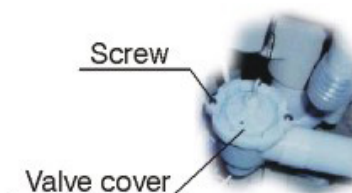

Figure 15
**To sweep abnormal things inside drain valve**(see Figure 15)